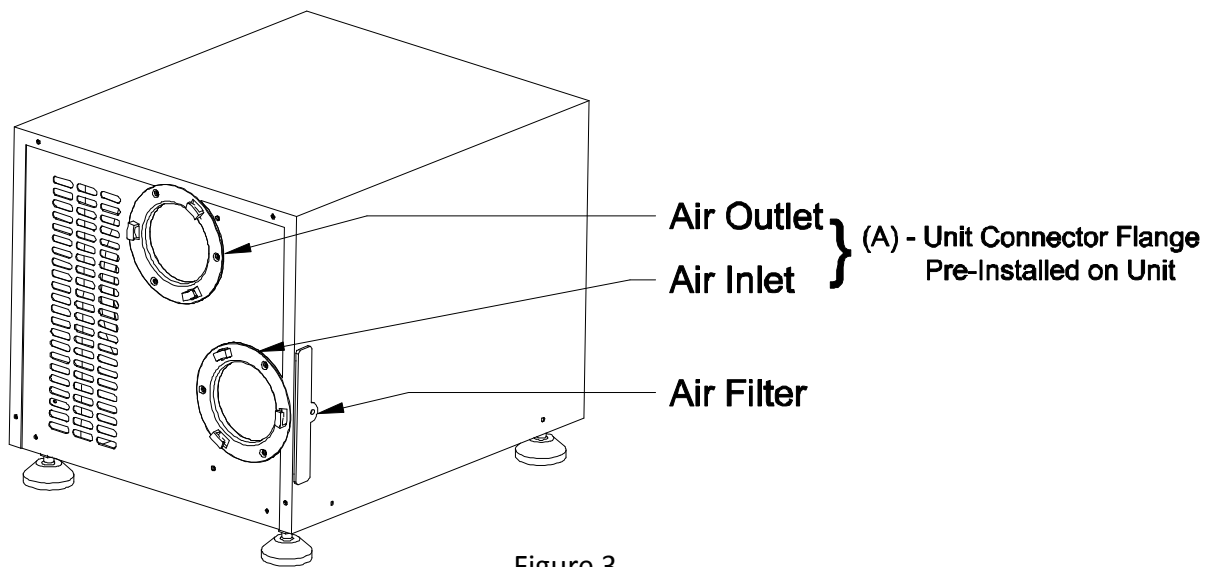

Figure 3
7. Once the holes have been drilled, insert a ClimateRight Building Flange (D).
9. Take 3 screws and secure the Building Flange into the structure. Repeat steps 6-8 for the second Building Flange (D).
10. The Air Hoses (C) and Hose Flanges (B) are pre-assembled at the factory. Take one of these assemblies and extend the accordion style hose so it is long enough to reach the unit and the structure.
11. Mate the Hose Flange (B) to the 'Air Outlet' Unit Connector Flange (A) (See Figure 3) that is pre-installed on the unit. Turn the Hose Flange clockwise until they "click" together.
12. Take the other side of the Air Hose and Hose Flange and install it onto the higher Building Flange (D).